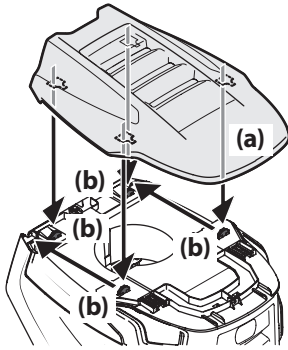

Figure 6
1. To install the snap-on hood topper (a), line up the holes on the hood topper (a) up with the tabs (b) in the hood frame as shown in Figure 6.